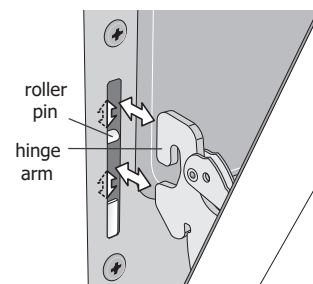

Figure 45: Replacement and location of hinge arm and roller pin
3. Firmly grasp both sides of oven door along the door sides. Do not use the oven door handle (See Figure 45).
4. Close the door to approximately 10 degrees from the door frame (See Figure 45).
1. Firmly grasp both sides of oven door along the door sides. Do not use the oven door handle (See Figure 45).
2. Holding the oven door at the same angle as the removal position, seat the hook of the hinge arm over the roller pins located on each side of the oven door frame (See Figure 45 and Figure 46). The hook of the hinge arms must be fully seated onto the roller pins.